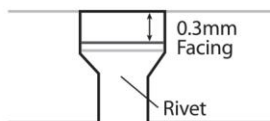

Fig. 3 Facing rivet
(1) Other signs that your clutch disc needs replacement
- If the facing rivets are less than 0.3mm depressed from the surface. (See Fig. 3)